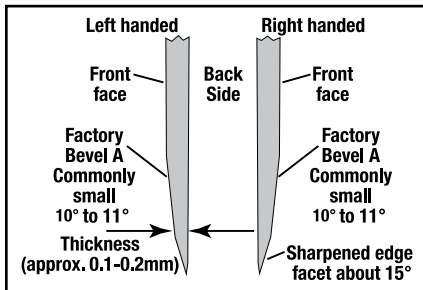
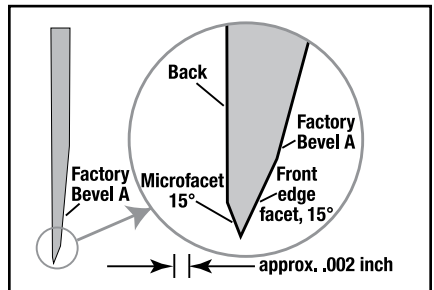

Figure 10. Cross-section of a single beveled traditional Asian blades are thinner and sharpened primarily on one side.
Figure 11. Cross-section of a typical factory traditional Asian knife edge, magnified 50x (right-handed).
Traditional Japanese knives such as the sashimi blade are single sided and have a large factory bevel (Bevel A, Figure 10) on the one side of the blade. There are a large number of manufacturers of knives of this type used widely to prepare sashimi. The factory bevel (Bevel A) is commonly ground at about 10 degrees, but there are exceptions as that angle is not standardized at the factories. Designs of the traditional Japanese knives and the detailed structure of the cutting edges likewise varies widely from one manufacturer to the next, however there are some similarities. The cutting edge consists of a small primary facet on the front face of the blade below the large factory bevel and includes a much smaller secondary microfacet along the back face. Commonly the back side microfacet (Figure 11) can be easily seen only with a hand
Before you start to sharpen a traditional Japanese blade, examine it carefully in order to confirm that you have the traditional single bevel blade and to determine whether you have a right or left handed type as described in Figure 10. It is essential that you follow carefully the sharpening procedure and sequence as described below in order to achieve the optimum edge on your traditional blade.
In this example which assumes your traditional blade is right handed, you must sharpen only in the left slot of Stage 1 **Steel**. The number of pulls that you will need to make depends on the factory angle of Bevel A (Figure 10 and 11) and how dull your blade may be. Make five (5) to ten (10) pulls (1-2 seconds per inch) in only the left slot of Stage 1 and then check for a burr along the entire back side of the blade edge. (The burr created in Stage 1 will be small but can be felt as shown in Figure 9). Make certain the burr is present along the entire length of the edge. If there is no burr or only a partial burr, continue to make additional pulls all in the left slot about five (5) at a time and check for a burr after each group of five (5) pulls. In general 10-20 total pulls in the left slot will be adequate to raise a burr; it is unlikely to take more than 20 left slot pulls to create the burr. When a burr is confirmed, proceed to Stage 3 **Polish/Finish**.